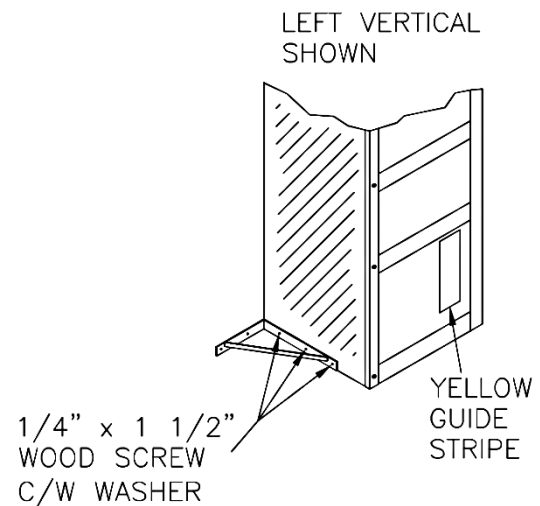

FIG. 7A
- **If using Stabilizing Bracket** (Figure 7a):